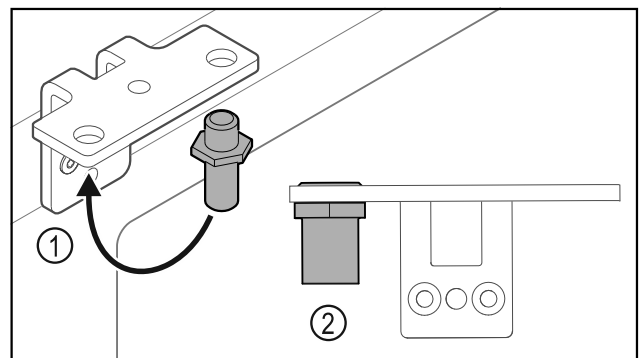

Fig. 32
- Put the pin back into the hinge Fig. 32 (1).
- Tighten the pin Fig. 32 (2) to a **torque of 12 Nm**.